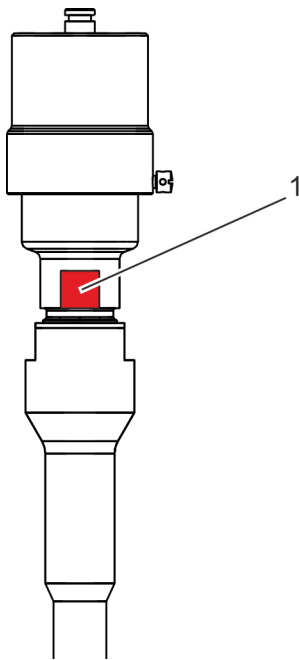

Fig. 15: Unscrewing the body
5. ➤ Position a size 27 spanner on the spanner flats (Fig. 15/1) of the body of the spring-loaded over pressure safety device.